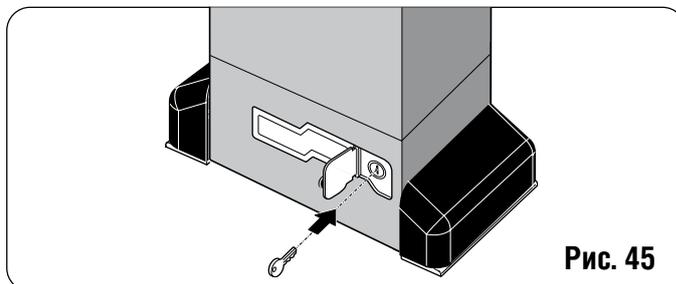

Рис. 45
1) Open the protection door and fit the supplied key in the lock (рис. 45).